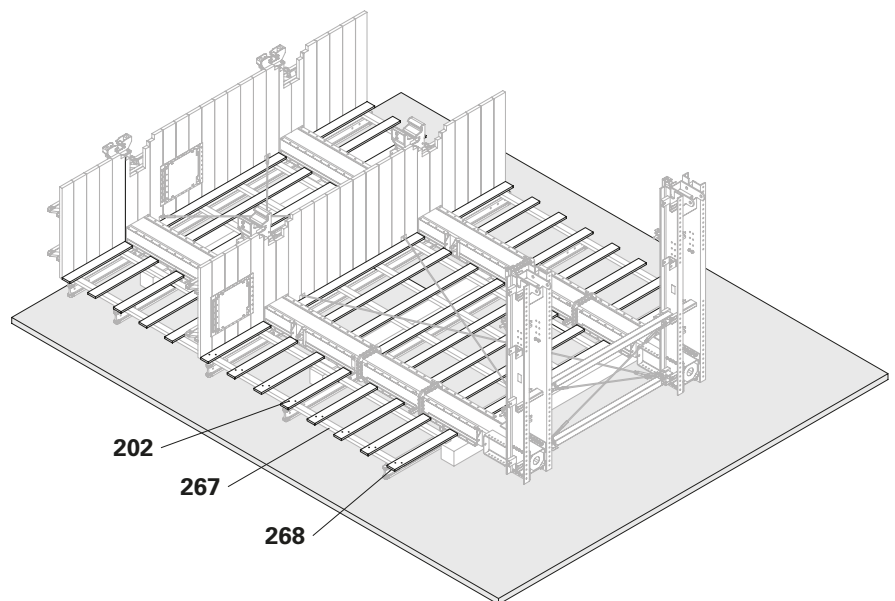

Fig. B6.05
2. Screw the ladder cage (**268**) onto the counter-batten (**267**) using Torx 6 x 80 (**202**). (Fig. B6.05)